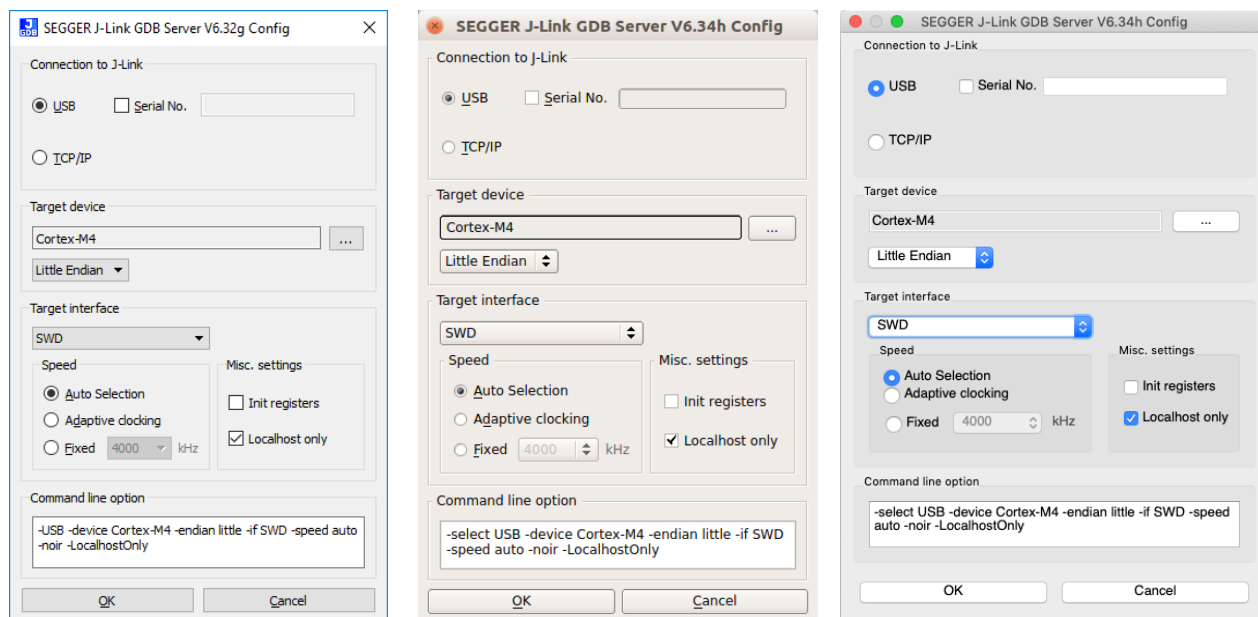

Figure 5-1. SEGGER GUI for Windows, Linux, and macOS
4. Run the Segger J-Link GDB Server program and set up as shown in Figure 5-1.